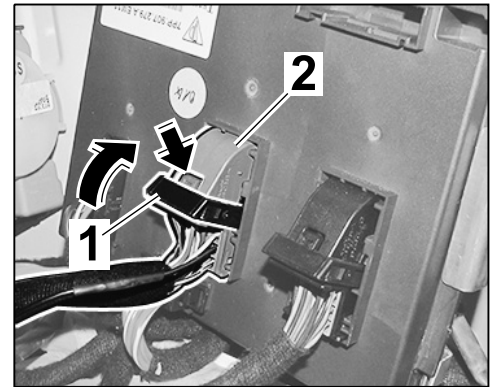

Figure 12
- 2.4.4 Release electric plug connection ⇒ *Figure 12-2-* (blue) by pressing the locking mechanism ⇒ *Figure 12-arrow-* and swivel the clip ⇒ *Figure 12-1-* upwards ⇒ *Figure 12-arrow-*.